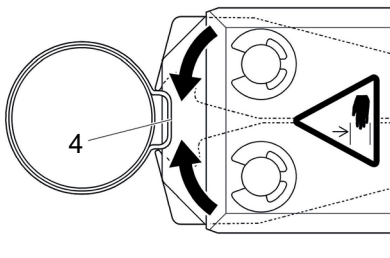

Fig. 16: The clamp is closed
- The closure process is triggered and the clamp (Fig. 16/4) closes.